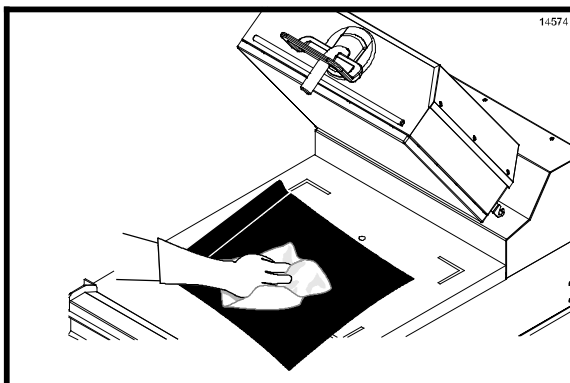

Figure 37
28. Rinse both sides of the release sheet with a clean, sanitizer-soaked grill cloth. (See Figure 37.)